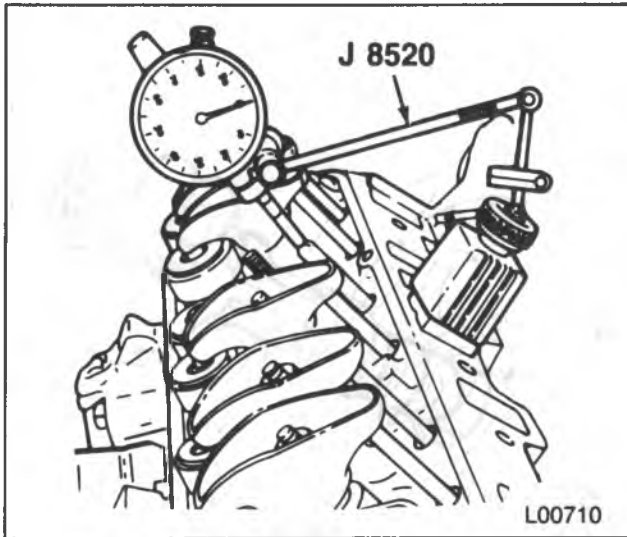

Figure 23 — Measuring Camshaft Lobe Lift
2. Refer to figure 23. Position the dial indicator (part of J 8520) so the plunger rests on the pushrod end, as shown. Make sure the pushrod is in the lifter socket.